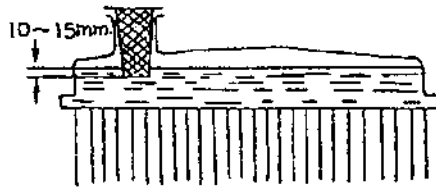

Fig. 5-1
4. Check and supply coolant water capacity. Open the cap shown in figure 5-1. If there is no water on the bottom of filter, supply water to the level shown in the figure. Stop the engine when refill water. After refill run the engine at low idle for about 5 minutes. Then check the water level again if it is not as figure 5-1 shown, supply water again.